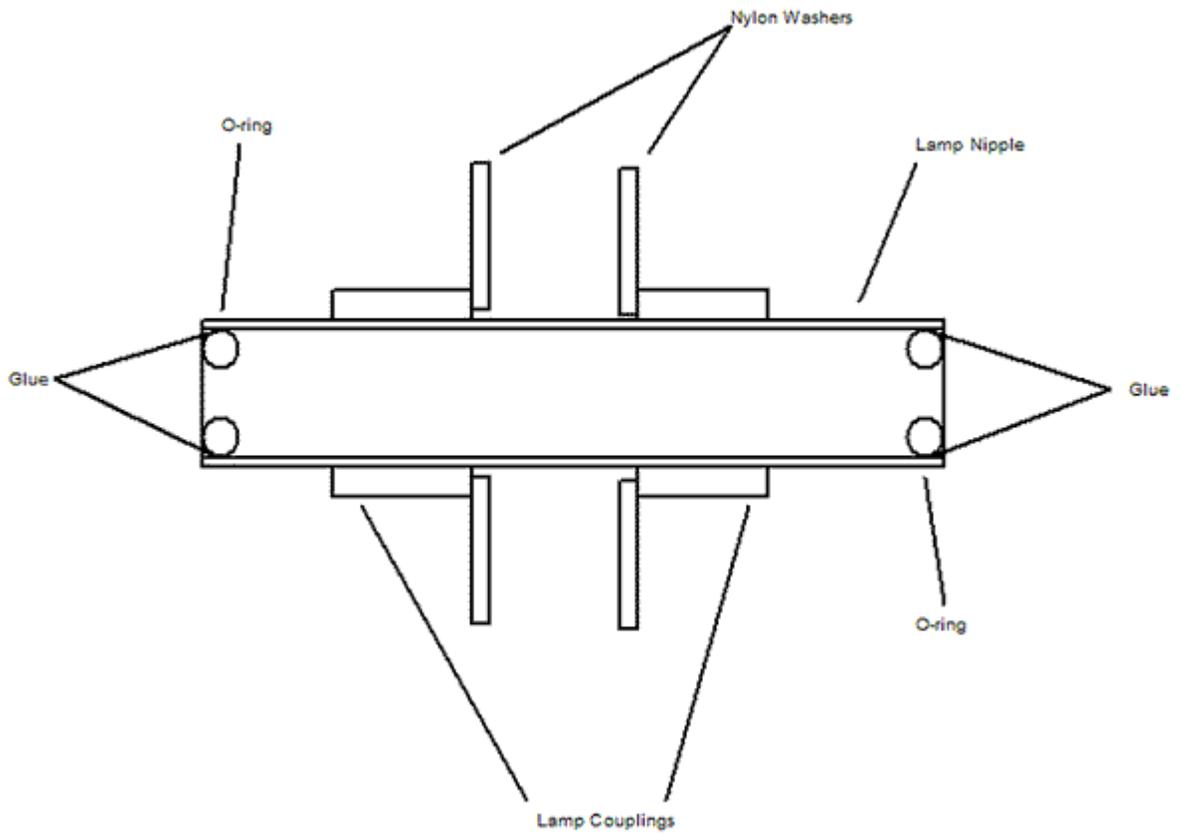

Figure 8. The diagram on the top shows what the completed thermometer holder should
- b. Using Figure 8 below as a guide, place the two nylon washers onto the lamp nipple. Then thread the lamp couplings onto the lamp nipple so that the glue used later won't fill the threads on the lamp nipple, or if it does, unthreading the lamp couplings will form the nipple threads anew. Next, insert the two O-rings in the ends of the lamp nipple. Insert the thermometer probe into the O-rings to make sure that it fits. Then glue the O-rings into the lamp nipple, being careful not to spread glue over the threads of the lamp nipple. You can use hot glue or superglue for this.